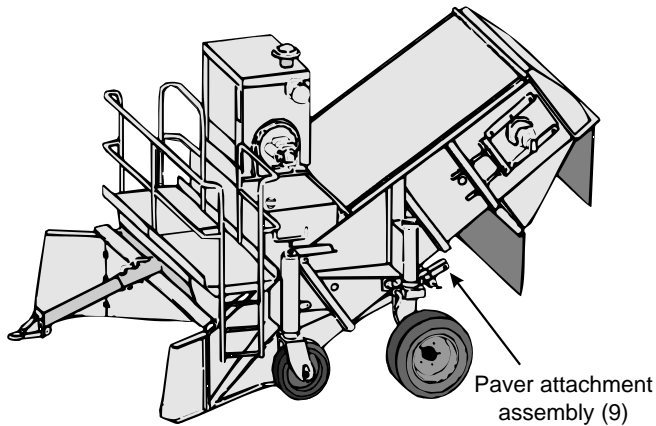

Figure 26
- Secure paver attachment assembly in the “UP” position 9 (Figure 26)